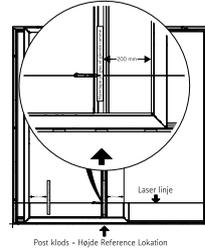
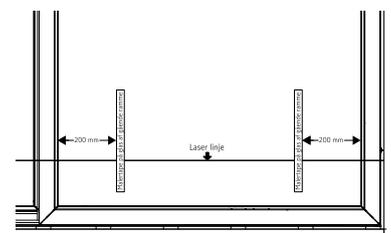

Figure 15: Laser position 2 – mark line on tape at laser height
Figure 16: Laser position 3 – adjust all blocks so lines match laser
20. Adjust each shim in height by sliding the sash back and forth so one of the tape pieces is directly above the shim. Repeat for all shims. The laser height must match the line on the tape (figure 15). Shims on the opening side are adjusted using the tape near the handle. Shims on the fixed side are adjusted using the tape opposite the handle (figure 16).